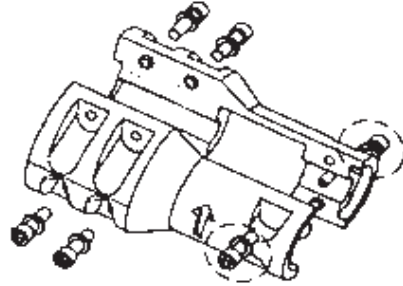

Figure 29: Coupling Socket Head Screws
26. Install the (4) hex cap screws on the seal gland to the seal housing. See the "Engineering Data" section on page 8 of this manual for the proper torque value.
28. Secure the motor to the motor adapter with the (4) hex head bolts removed in step 6 of this section. See the "Engineering Data" section on page 8 of this manual for the proper torque value.
32. Very lightly tighten the (2) socket head cap screws on the pump end of the coupling (refer to Figure 29). Tighten the coupling evenly; ensure that the coupling is symmetrical on both the pump and motor shafts. Do NOT torque the cap screws in this step.